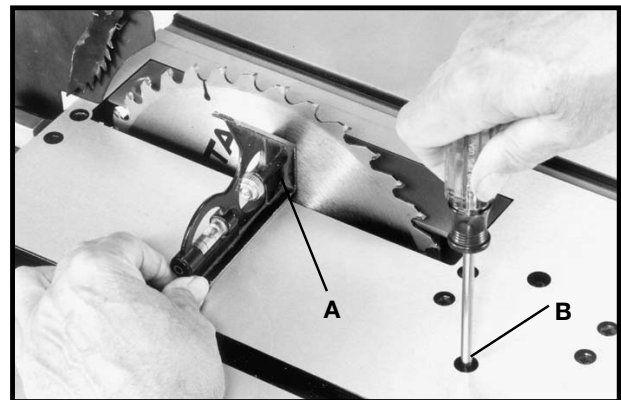

Fig. 38
3. Place a square (A) Fig. 38, on the table with one end of the square against the blade, as shown, and check to see if the blade is at 90 degrees to the table. If it is not, loosen screw (B) a few turns and move the blade tilting mechanism until the blade is at 90 degrees to the table. Then tighten blade tilting lock handle and tighten screw (B) until it bottoms.